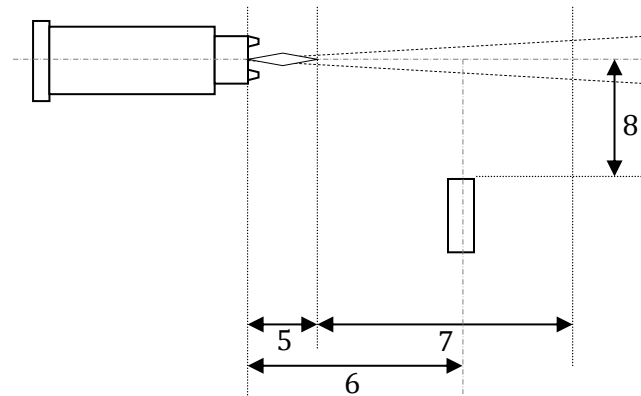

FIGURE 11 DPV EVOLUTION INSTALLATION DRAWING
It is not necessary to take the reference measurements at the exact same stand-off you use for coating, as long as you keep the reference distance (6) constant over time. See Figure 11 DPV eVOLUTION installation drawing.
Step 9. If monitoring is required while spraying, set measuring point within measuring area (7), away from the substrate because of flow perturbation phenomena as the spray hits the substrate.